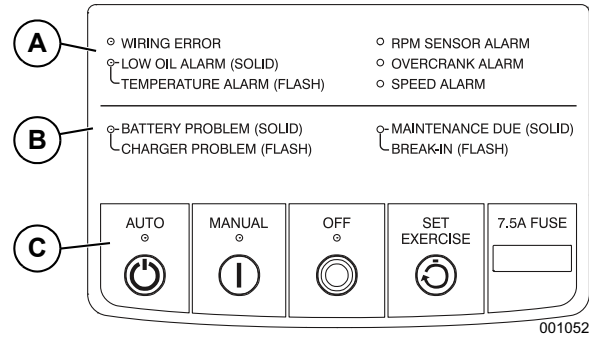

Figure 3-3. Generator Control Panel and LEDs
The Auto/Off/Manual Interface located on the Control Panel has the following features (see Figure 3-3):
The user interface includes seven (7) LEDs to indicate generator alarms, warnings, and maintenance actions due. See Figure 3-3 and the following table for details on each indication.